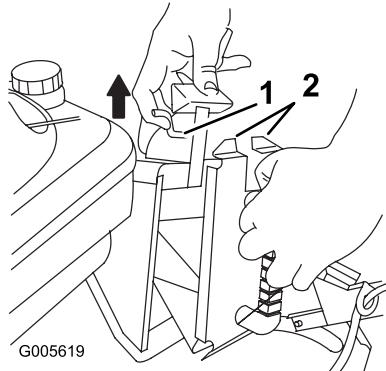

Figure 23
3. Lift the door latch on the door handle and push the top of the plug all the way in while moving the door handle rearward (Figure 23).
- Release the door latch, allowing it to hook it over the tabs on the plug (Figure 23).